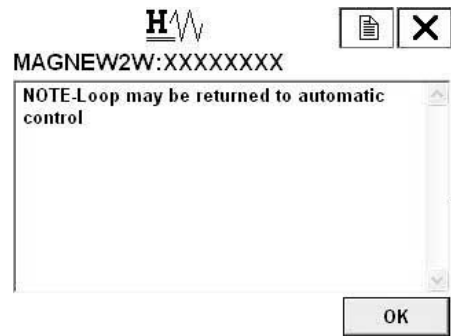

Figure 7-85
- 3. Note of caution will appear as shown in Figure 7-85. To proceed, press F4(OK).